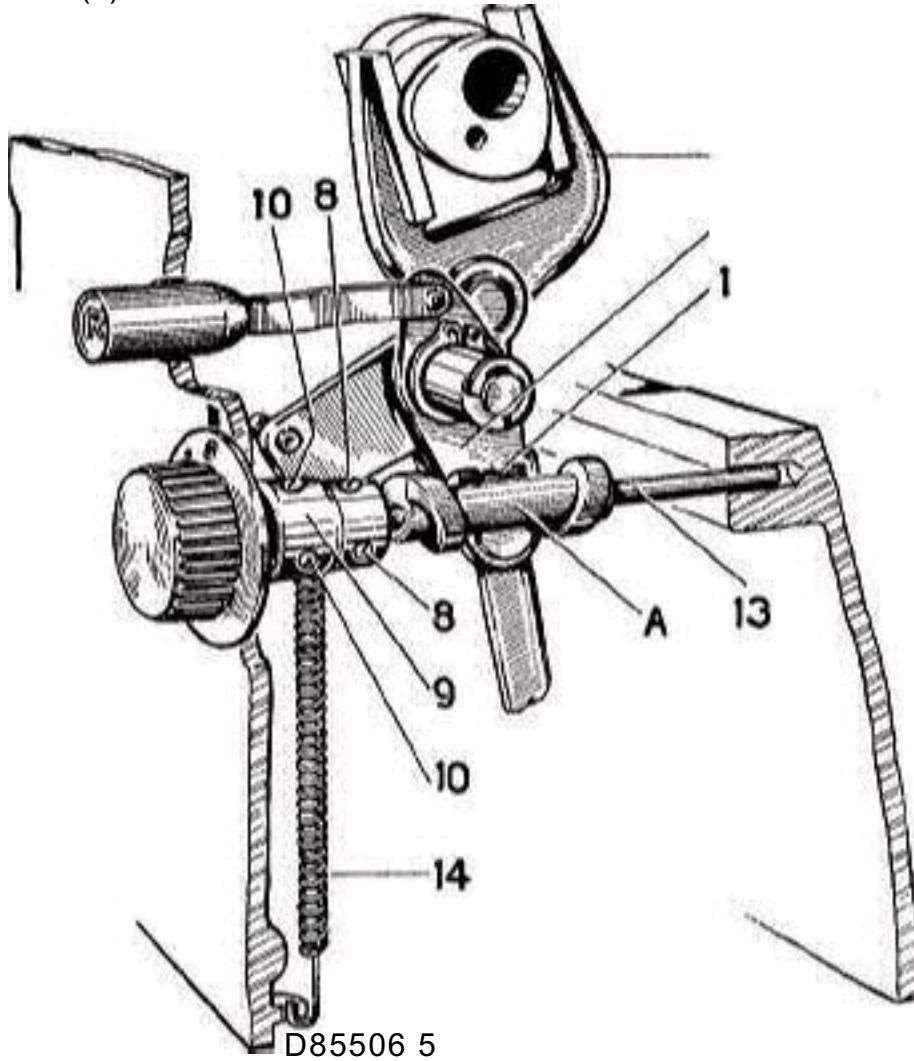

Fig. 35
- *Timing the regulating shaft of the stitch length regulating knob (Fig. 35).*
Loosen the two screws " 8 " which hold collar " 9 " (Fig. 35).
While keeping the gauge in its right place by one hand, with the other hand turn the regulating shaft counterclockwise around its axle until it can go no further. This means the pin " 1 " at the end of reverse stitch plate " 5 " is now inserted in the groove of the stitch regulating shaft completely (Fig. 35).
NOTE. - While turning the stitch regulating shaft around its axle, push it toward the stitch regulating knob so that the bent portion " S " of the reverse stitch plate " 5 " rests on the stitch regulating lever plate " 4 " (Figs. 35 and 36).